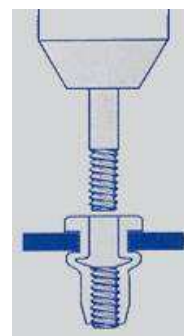

Fig. 4
8. Unscrew the tool shaft and the nut will be installed (Fig. 4).